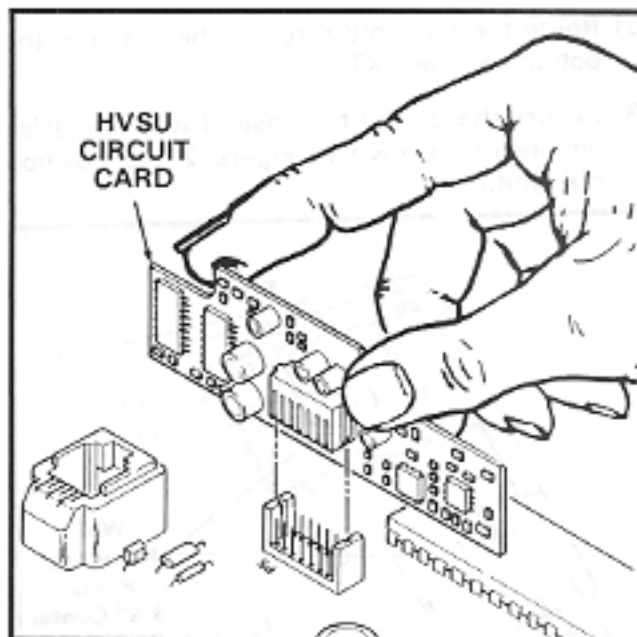

FIGURE 19—HVSU LOCATION
- 3) Plug the HVSU into the P5 connector on the bottom of the EKT main board (Figure 19).